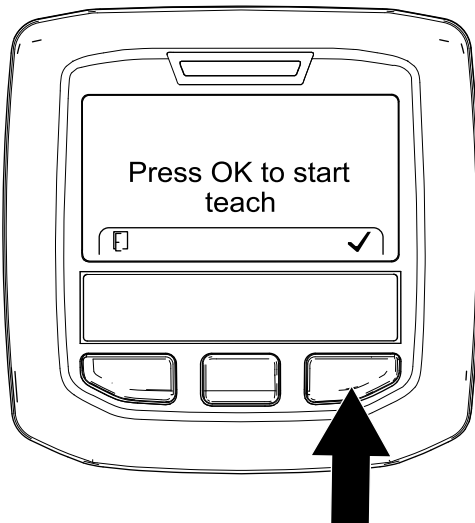

Figure 67
5. On the Press OK to Start Teach screen (Figure 67), press the right InfoCenter button.